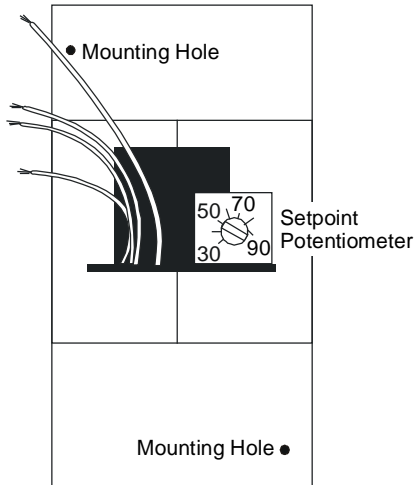

Figure 1: Adjusting the Setpoint
The setpoint is adjustable from 30 to 90% Relative Humidity (RH). Use a 1/8 in. (3 mm) flat-blade screwdriver to adjust the setpoint potentiometer located under the cover. (See Figure 1.)